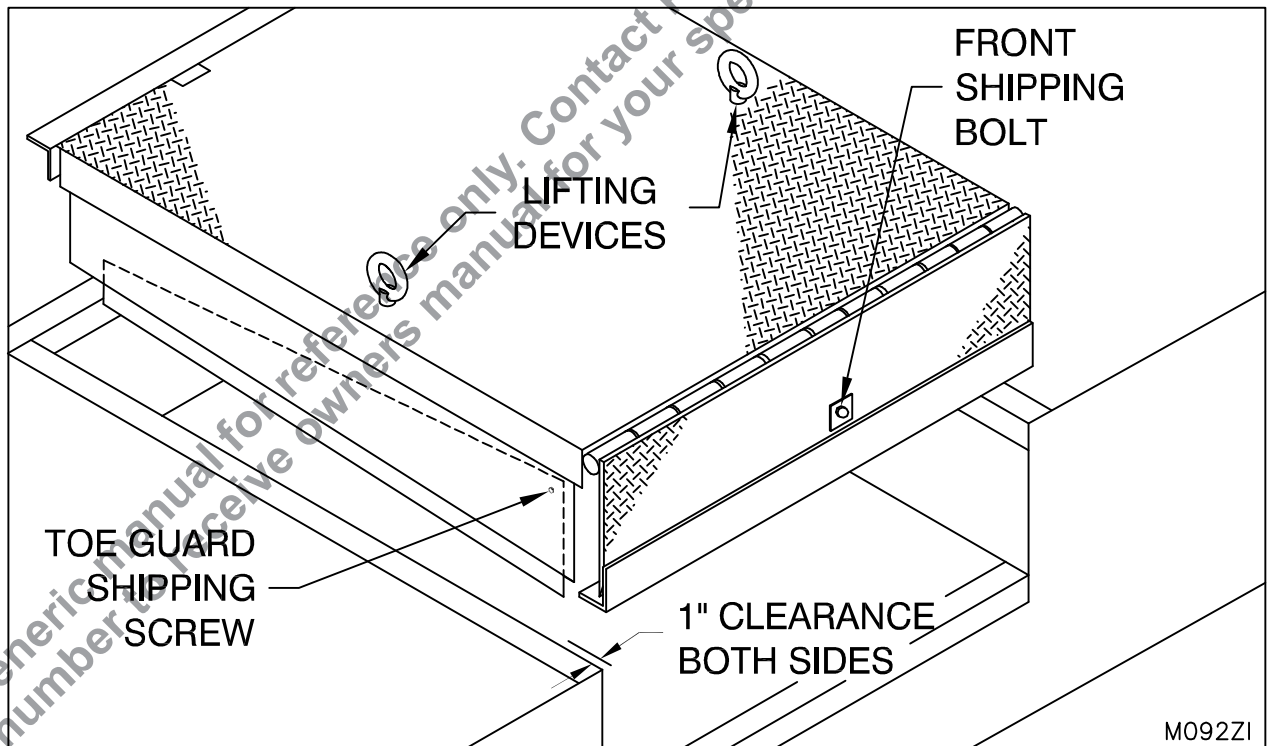
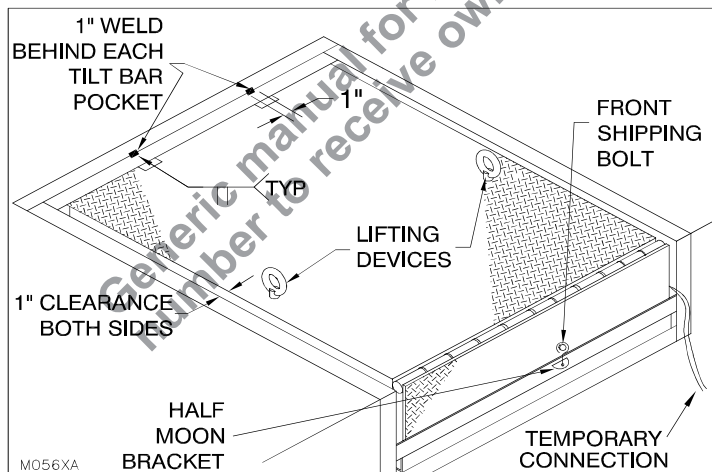

Figure 6: Hoist Leveler with Chain
Figure 21: Installing Leveler into Pit
1. — Hoist leveler into pit with appropriate chain and lifting devices (See “Figure 6: Hoist Leveler with Chain” on page 10) and position the leveler into the pit opening. The dock leveler must not be lifted in any other manner.
3. — Remove the lifting devices. **Remove** the front shipping bolt and washer. (“Figure 6: Hoist Leveler with Chain” on page 10)
Carefully lower the toe guard and avoid pinch points. (see “Figure 6: Hoist Leveler with Chain” on page 10)
4. ☐ Hoist leveler into pit with chain using only appropriate lifting devices ("Figure 6: Hoist Leveler with Chain" on page 10) and position the leveler into the pit opening. Note: Assure temporary wire is accessible through front of dock leveler. ("Figure 21: Installing Leveler into Pit" on page 17).
5. ☐ Ensure 1" clearance is maintained between the side of leveler platform and the side pit wall and that the rear angle of the dock is firmly against the rear curb angle. ("Figure 6: Hoist Leveler with Chain" on page 10)
7. ☐ Weld the rear angle of the dock leveler to the rear curb angle, 1" wide butt weld, at the location of each tilt bar pocket (2 places). "Figure 21: Installing Leveler into Pit" on page 17.
10. ☐ Remove the top shipping bolts and lifting devices. Remove the front shipping bolt ("Figure 6: Hoist Leveler with Chain" on page 10).